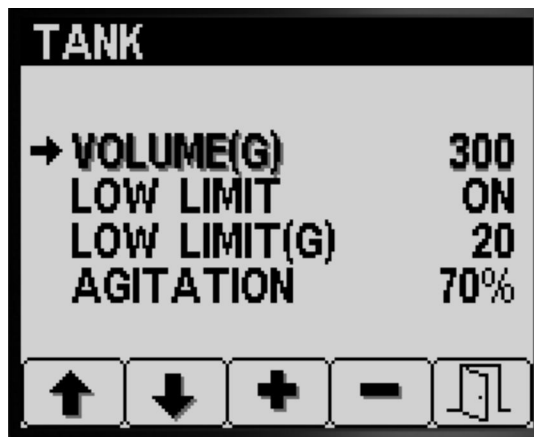

Figure 12
1. Press button 1 or 2 to navigate to the TANK VOLUME option (Figure 12).
2. Press button 3 or 4 to raise or lower the value for the volume of chemical in the sprayer tank (Figure 12).